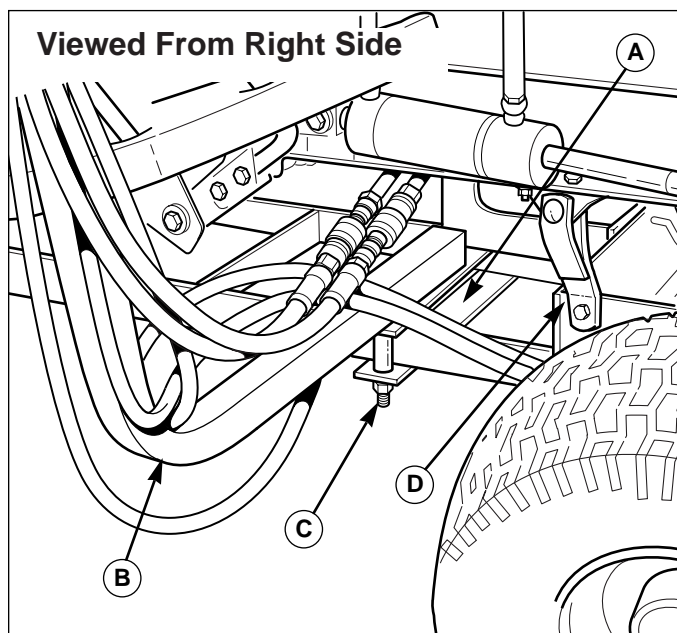

Figure 25. Attach Lower Control Arm Support
The clamp plate assembly (A, Figure 25) should be approximately 7" behind the hitch mounting brackets (D) as shown in Figure 25.